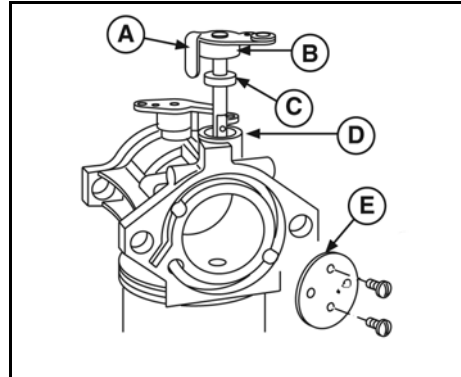

Figure 50
- Insert choke valve (D) into choke shaft with dimples (E) toward fuel inlet side of carburetor. Actuate the choke shaft to check for proper movement.
4. Install new throttle shaft seal (C, Figure 50) with sealing lip down in carburetor body until top of seal is flush with top of carburetor (D). Install new foam seal (B) on throttle shaft, then slide shaft into carburetor body. Rotate shaft until flat is facing out. Position throttle valve (E) on flat with numbers facing out, then install screws. Actuate the throttle shaft to check for proper movement.